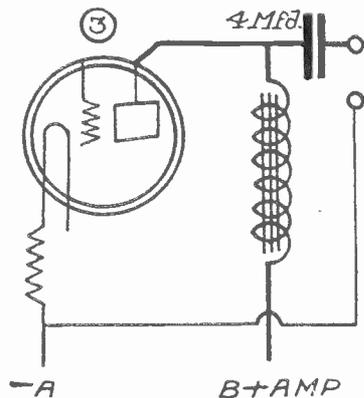

FIG. 574
(1) Try .00025 or .0001 mfd. fixed condensers.
(2) The choke coil and condenser will prevent the speaker windings from becoming damaged. How to connect it up is shown in Fig. 574. The choke coil can be of the 100 henry variety. The capacity of the fixed condenser is indicated.